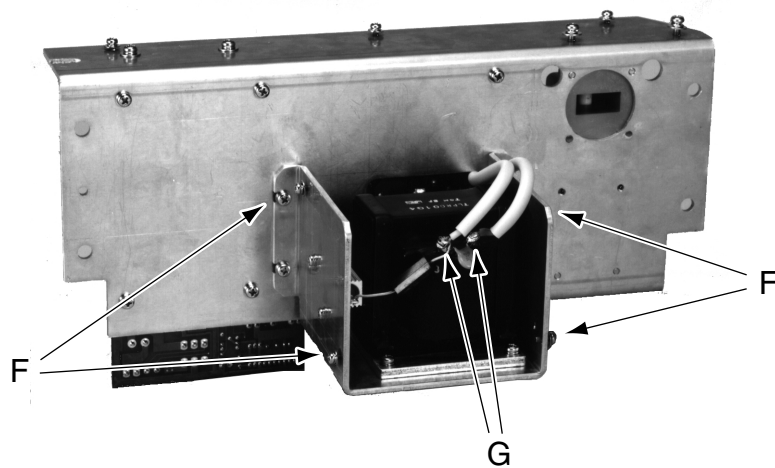

Fig. 8.4 Pulse Transformer of 10kW Scanner Unit NKE-1055
- (7) Loosen the four F screws and remove the pulse transformer cover (see Fig. 8.4).
- (8) Remove the cable G between the pulse transformer and magnetron from the transformer side using a soldering iron (see Fig. 8.4).